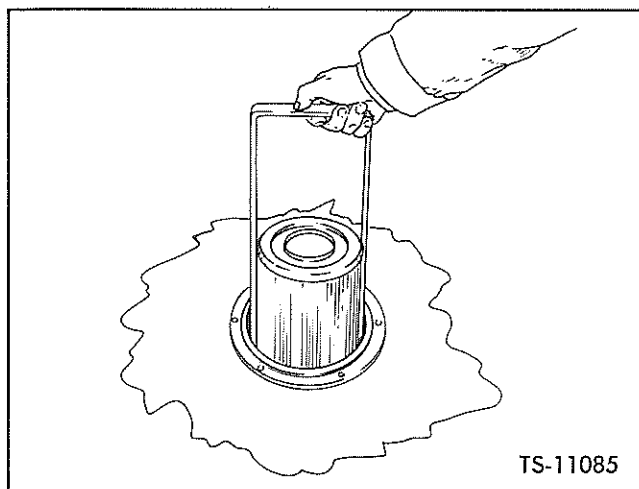

Fig. 31. Remove Filter Element
2. Unscrew filter element from element mounting base and remove filter element as shown in Figure 31.